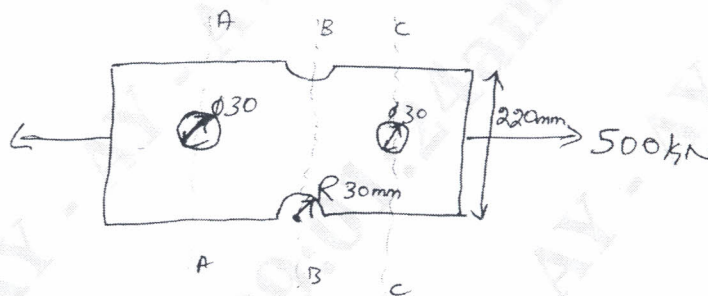

Fig.Q7(c)
c. A bar of rectangular cross section is shown in below Fig.Q7(c) is subjected to an axial pull of 500 kN. Calculate its thickness if the allowable stress in the bar material is 200 MPa.